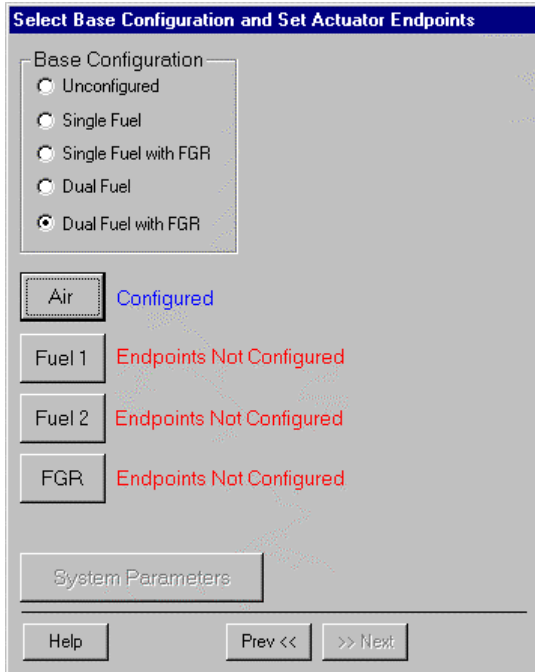

Fig. 13. Air Configured.
- d. **Next** Press this button to move to the *Select Base Configuration* screen. You cannot move to the next screen until you have completed the actions required on this screen. See Fig. 13 and 14.